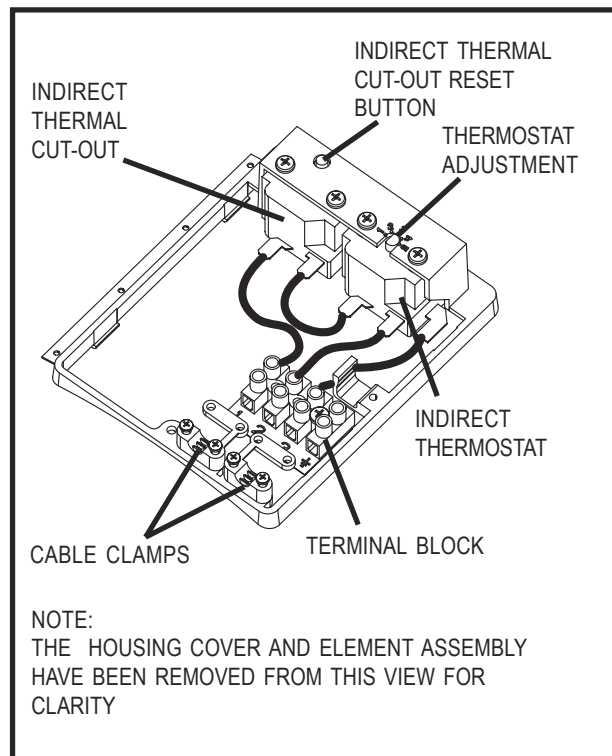

FIG. 9 Indirect thermostat and thermal cut-out
(60°C recommended, approximately graduation 4 on the thermostat). If necessary the temperature can be adjusted by inserting a flat bladed screwdriver in the adjustment knob (located on top of the thermostat mounting bracket - see Fig.9) and rotating. The minimum thermostat setting is 10°C. The adjustment range 1 to 5 represents a temperature range of 30° to 70°C. Check the operation of the indirect thermostat and 2 port motorised valve and that no water has issued from the Expansion Relief Valve or Temperature/Pressure Relief Valve during the heating cycle.
9.3 TEMPERATURE CONTROLS – INDIRECT UNITS (Fig. 9)